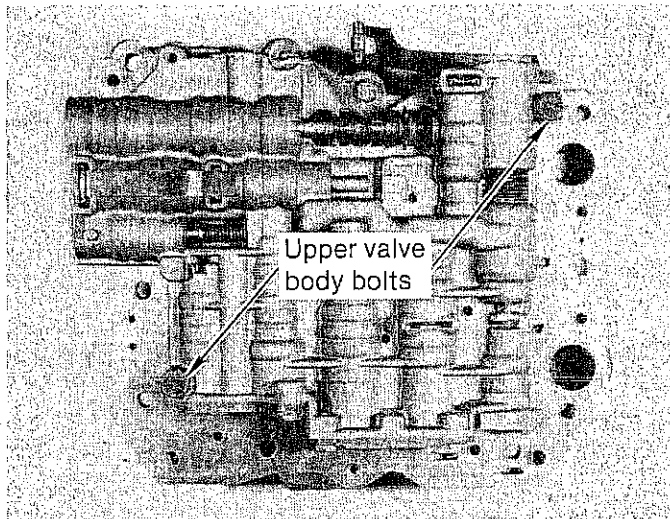

FIGURE 33
STEP 1. Lay the valve body on the bench with the filter side down. Remove the two upper 1/4" bolts with a 7/16" wrench. (See Fig. 33)
STEP 14. Turn valve body over and install the two long 1/4" bolts. (See Fig. 33). Tighten to 80-120 in.-lbs. Also tighten all valve body end plate bolts to 20-40 in.-lbs. This includes one end plate, eight valve body bolts and one or two hold down plates.